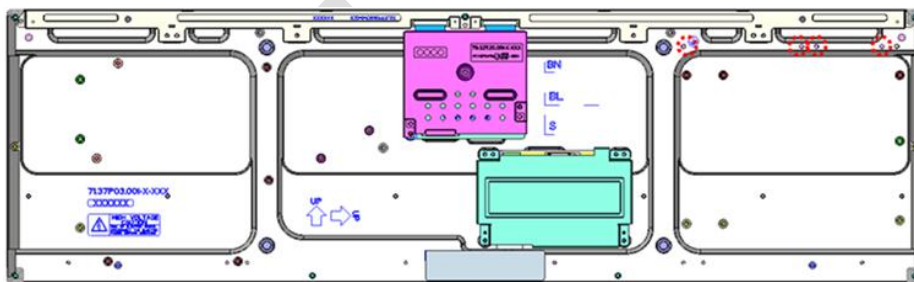

Figure 1
- (1) AUO module dust test is conducted with marked holes (see figure1, marked with red circle) sealed to comply with JIS D0207
- (2) Module users should design set with these holes used/sealed (if not used) or covered by set mechanism to prevent dust from entering. The AUO testing procedure cannot replicate all different real world scenarios, module users should apply set dust resistance solution to meet user's requirement.